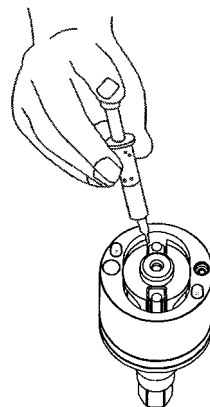

Fig.287
4.3 Fill up the interior pulse cylinder with the pulse oil about 90% full by a syringe. (Fig. 287)